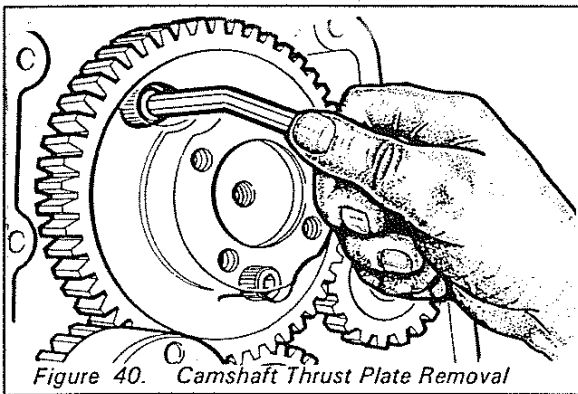

Figure 40. Camshaft Thrust Plate Removal
12. Remove the two camshaft thrust plate retaining screws; these are accessible through holes in the gearwheel as shown in Figure 40.